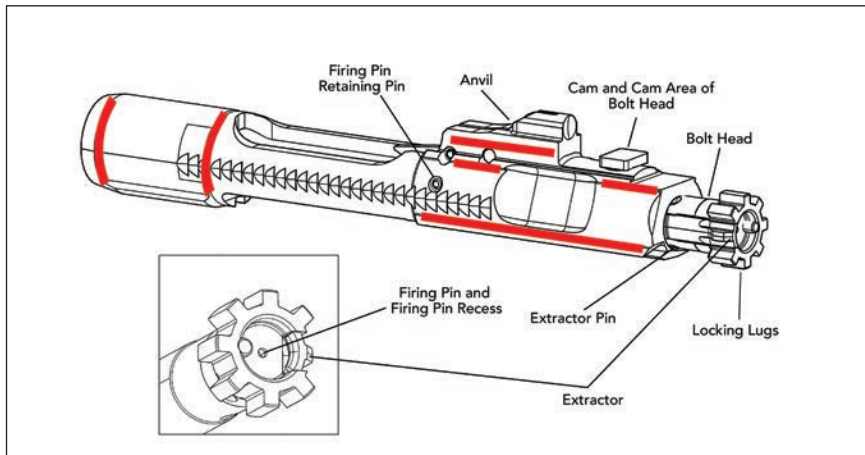

Fig. 54 – Lubrication of the MR A4 Bolt Carrier Assembly
2. Apply a light coat of lubricant to the extractor pin, the firing pin, firing pin spring, firing pin recess in the bolt. Apply a medium coat of lubricant to the red areas (Fig 54).
3. Apply a medium coat of lubricant to the extractor (Fig. 54).